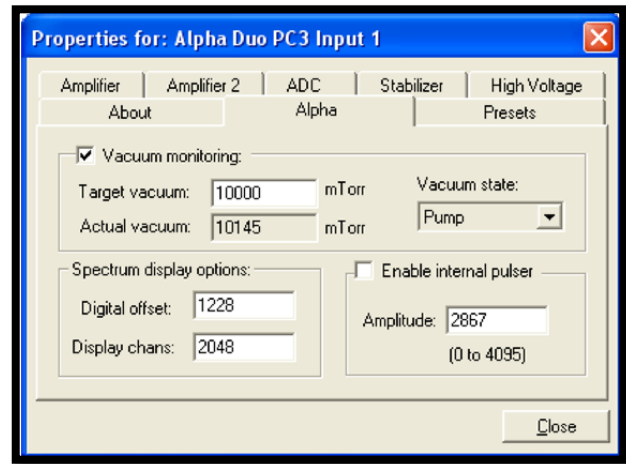

Figure 9. Alpha Aria Alpha Tab
- **MAESTRO** – Go to the Alpha tab under **Acquire/MCB Properties...** and select the vent, pump, and hold settings as needed from the **Vacuum state** drop list, using the **Actual vacuum** readout to monitor chamber pressure. (See Figure 9)
The Alpha tab (Figure 9) contains the controls for the chamber pressure, digital offset, and pulser.